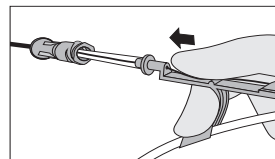

Figure 3
- Using thumb, retract guidewire tip. Place tip of Arrow Advancer™ Guide – with guidewire retracted – into introducer needle (refer to Figure 3).